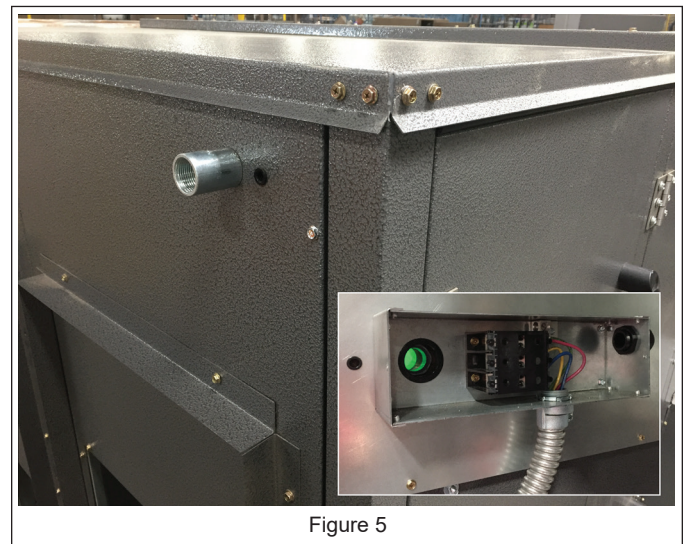

Figure 5
5. Connect line voltage power from field installed power disconnect to the provided junction box above the controls section of the unit. A $\frac{3}{4}$ " connector is provided for units up to 36, 46 and above have a 1" fitting. **See Figure 5.**
The electric preheat mounts in the OA sector of the ERV before the filters and wheel. Electric Pre-heat gets the High Voltage power from the Junction Box installed in the Return Door. **See Figure 5 on Page 3.** Control is handled through the units controller via an output signal from FEC OUT7 and OCOM7. ERV Controller sends a dry contact to the Preheater Controls Contactor. **See Chart on Page 11.**